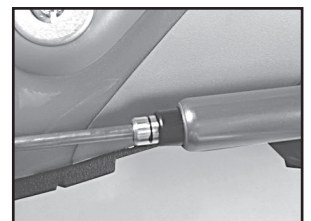

FIGURE 3
Now engage the heel lever and check the distance from the mark to the back collar. the distance should be at least 1/8" or 3mm and no more than 1/4" or 6mm to ensure optimal flex and heel retention. (SEE FIGURE 3)
2.) Before skiing, **check the forward pressure** to confirm you have an adequate load on the spring cartridges for maximum performance. (REFER AGAIN TO FIGURE 3)